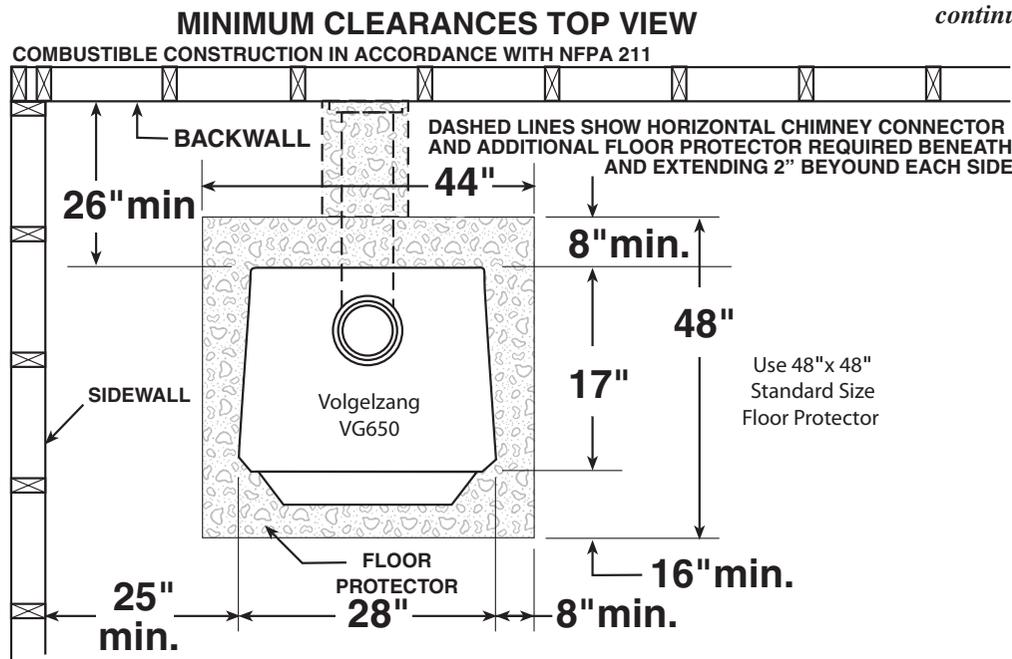

Fig. 7 – TOP VIEW Minimum Clearance Dimensions from Combustible Surfaces
- After properly locating flooring protector (figure 7, page 6) to accommodate minimum stove clearances, place stove in position on floor protector.
1. The stove must be placed on solid concrete, solid masonry, or when installed on a combustible floor, on a listed UL 1618 Type 2 floor protector, such as Hy-C or Imperial Model UL4848BK or equivalent with 1.0 R-factor. (NOTE: to calculate R-value of alternative materials see page 20). The base must extend at least 16" beyond the front of the access door, 8" to the sides, 8" behind and **must** extend under and 2 inches beyond either side of the stove pipe if it is elbowed towards a wall. (See figures 7 & 9 and consult local building codes and fire protection ordinances.)
3. After observing the clearances to combustible materials (figures 7-9), locate your floor protector accordingly (figure 7) and carefully place the stove in your selected location. Install connector pipe, elbows, and thimble as required, utilizing either a recently cleaned and inspected 6" masonry chimney or a 6" i.d. UL 103 HT listed chimney.